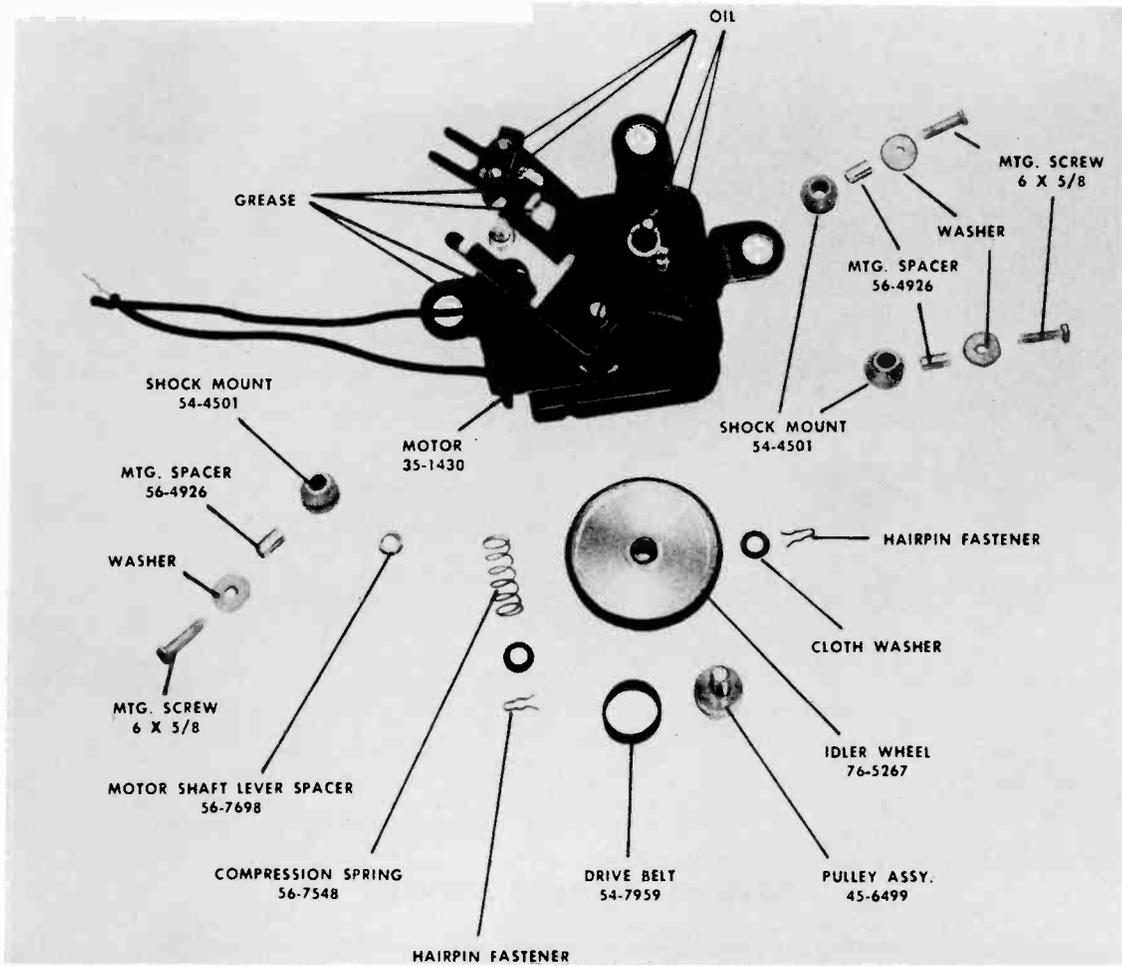

FIGURE 15. MOTOR ASSEMBLY—PART NO. 35-1430
- Lift motor out. Figures 15 and 16 show motor assemblies.